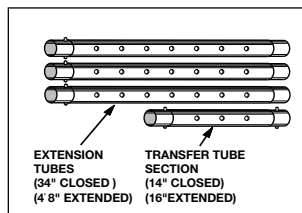

Figure 8
A. Button to button, each Extension Tube Section extends a total of 4' 8", and the Transfer Tube Section extends 16", allowing the tubes to extend 23' 2" with the Auto-Lok fully extended. (See figure 8.)